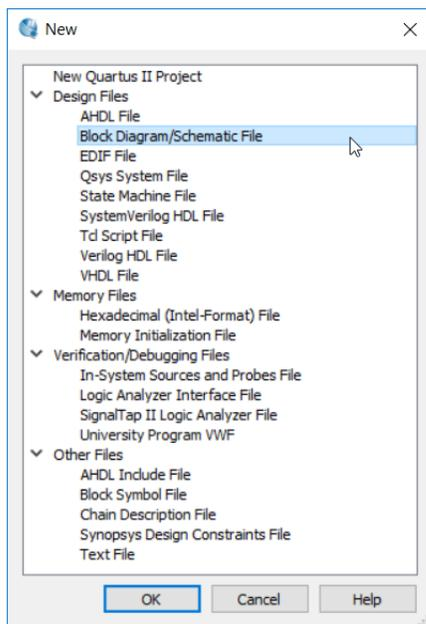

Figure 9. New BDF.
1. From the top menu, choose **File** ➔ **New** ➔ **Block Diagram/Schematic File** to create a new file (see Figure 9) then click **OK**.